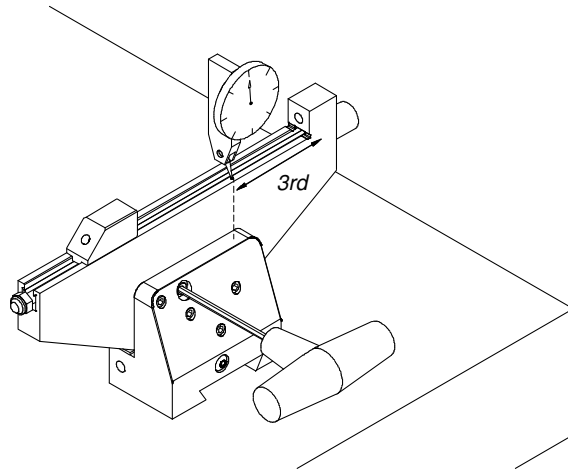

Figure 5
Loosen the TD01 by moving the torque handle upward. Remove the V06/TD01 and work piece off the MCD01 or PS01 and set back on the surface plate as shown in Fig. 5.
STEP 9. (A). Place the indicator ball on the vise bed directly overhead of the pivot ball in the TD01 as shown in Fig. 5. **(B).** Zero the indicator. **(C).** Move the indicator ball to the end of the vise bed near the fixed jaw. **(D).** Adjust the cam until the indicator reads zero. If the cam is too tight to turn then loosen the two clamp screws 1/4 turn. If the clamp screws are too tight, then loosen the two jackscrews 1/8 turn. If it was necessary to loosen the jackscrews then true the 1st and 2nd axes again. The third-axis is trued.